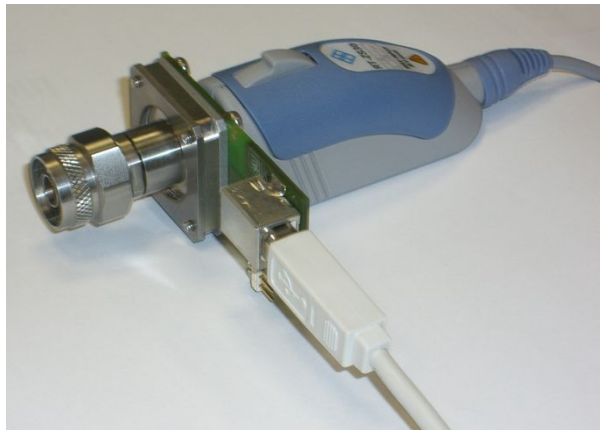

Figure 1-2: Probe box adapter with USB cable and probe
- ▶ Connect the DUT to the probe box adapter (see Figure 1-2).